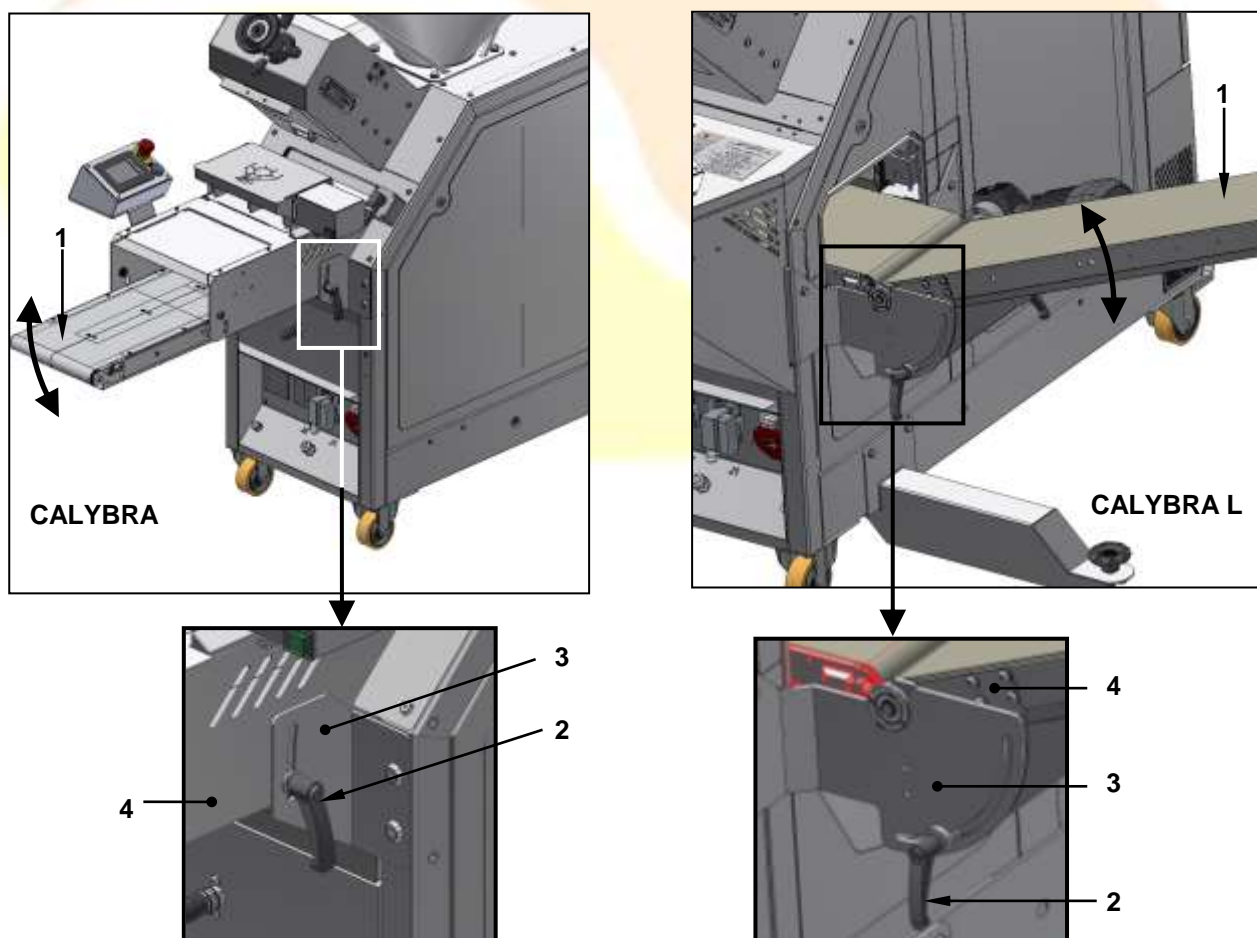

Figure 25 – Regulating the inclination of the product output belts
With reference to Figure 25, to adjust the inclination of the output belt ref. 1:
- holding the belt with one hand so that it doesn't fall, use the other hand to loosen the other two fixing levers on the sides ref. 2
- bring the belt ref. 1 to the desired angle, then lock the levers ref. 2.
- To enable the widest possibility of adjustment options, the belt can be blocked in any point, but the blocking force is given exclusively by the friction between the fixed shoulder support ref. 3 and the side of the belt structure ref. 4.